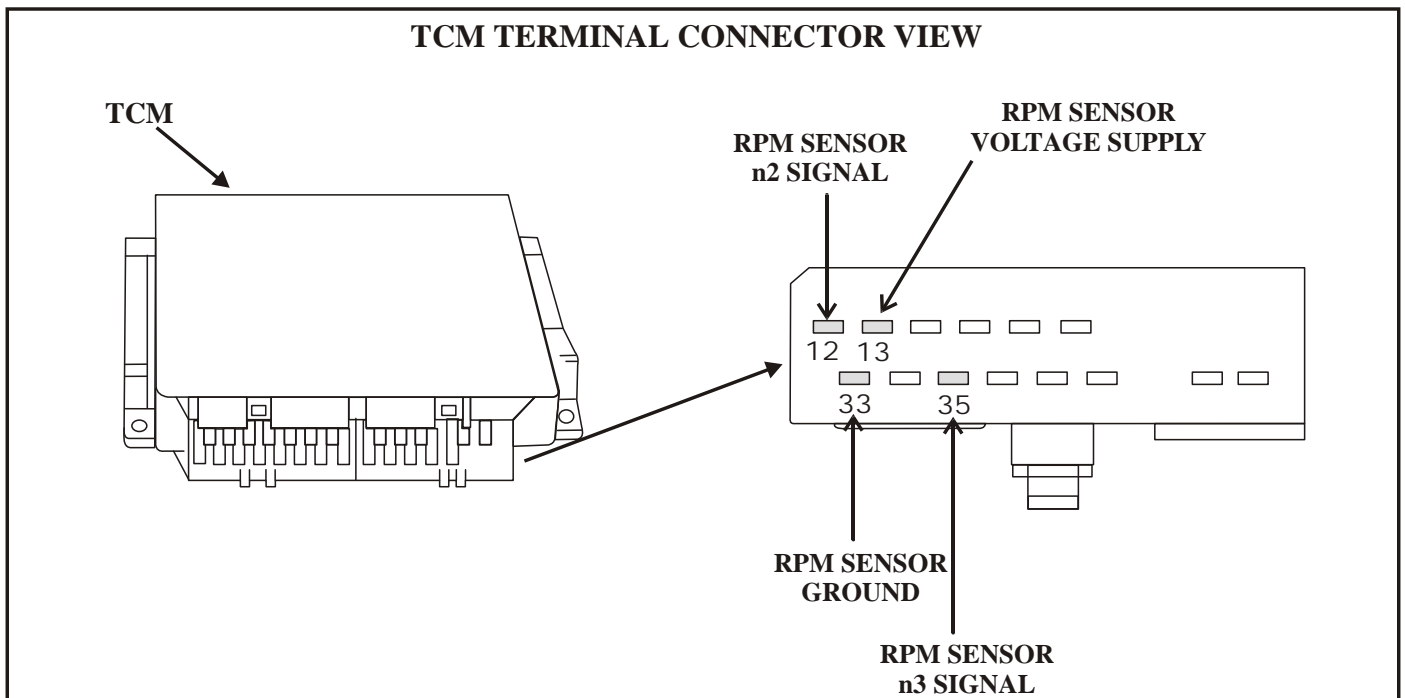

Figure 9
5. The TCM (Refer to Figure 9) can also cause this complaint, however this would be the last item to condemn as it is unusual for Hall Effect sensor signal problems to be the cause of this complaint.